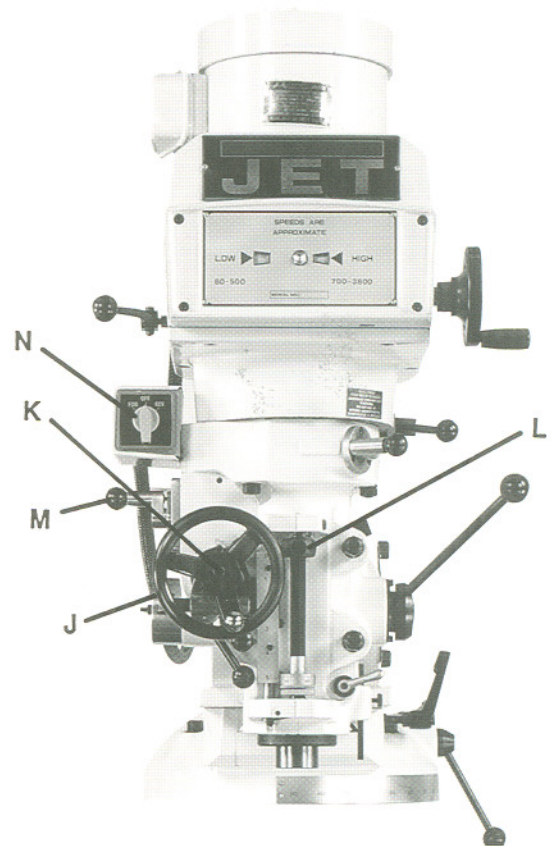

Fig.6
- J. **Manual Feed** (J, Fig. 6) - located on the left side of the head. Feed reversing knob (K, Fig. 6) must be in the neutral position. The feed control lever (I, Fig. 6) must be engaged.
- K. **Feed Reversing Knob** (K, Fig. 6) - located in center of manual feed handwheel. Position of the handle depends upon the direction of spindle rotation. If boring with right hand cutting tools, pull feed handle towards operator until clutch becomes engaged. Neutral position is between forward and reverse position.
- L. **Quill Stop** (L, Fig. 6) - located on the front of head. Used to disengage the automatic feed in either direction as well as the setting point for working to a given depth.
- M. **Quill Feed Speed Selector** (M, Fig. 6) - located on the left side of the head. Pull knob out and locate handle over choice of three feed speeds - .0015", .003", .006" Downfeeds per spindle revolution. Feed is more readily engaged when spindle is turning.
- N. **Reversing Switch** (N, Fig. 6) - located on the left side of the head. Switches rotation of spindle.